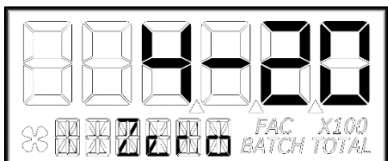

Figure 29-1
**“Zero” Setting:** This figure will flash for 1 second before allowing the user to change the 4mA or “zero” setting (see Figure 29-1). This setting will already be configured for the minimum flowrate of the meter this QSE Q9 was attached to, when shipped from the factory.